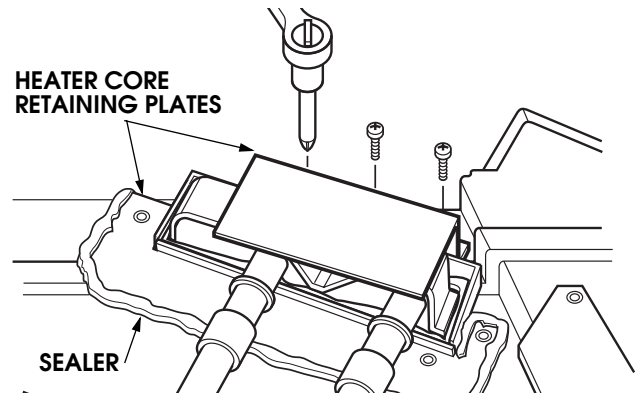

Figure 11-93: Retaining Bracket Removal
5. Cut sealer around heater core retaining plates (Figure 11-93).
6. Remove 2 retaining plates (Figure 11-93).